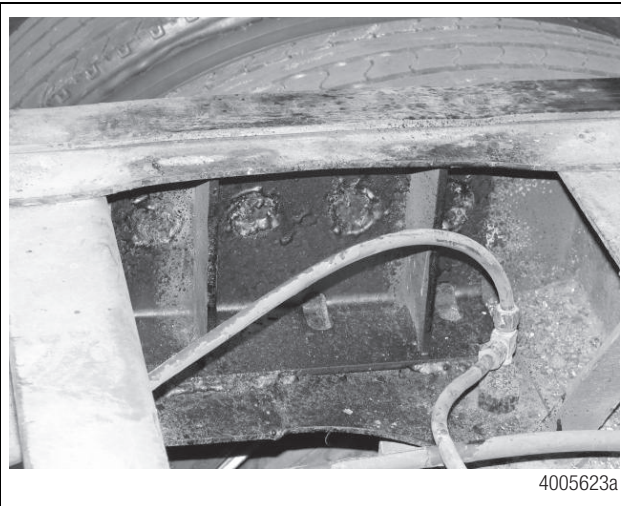

**Figure 24**
2. Identify the slider. Figure 24 and Figure 25.